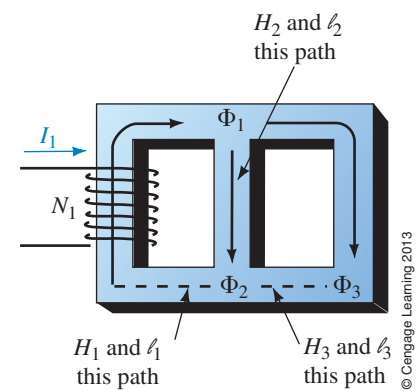

FIGURE 12–47
14. Repeat Problem 13 if the net flux in leg 3 is upward but the directions of Φ_1 and Φ_2 remain as in Figure 12–47.
15. Find the current I in Figure 12–48 if $\Phi = 0.16$ mWb.